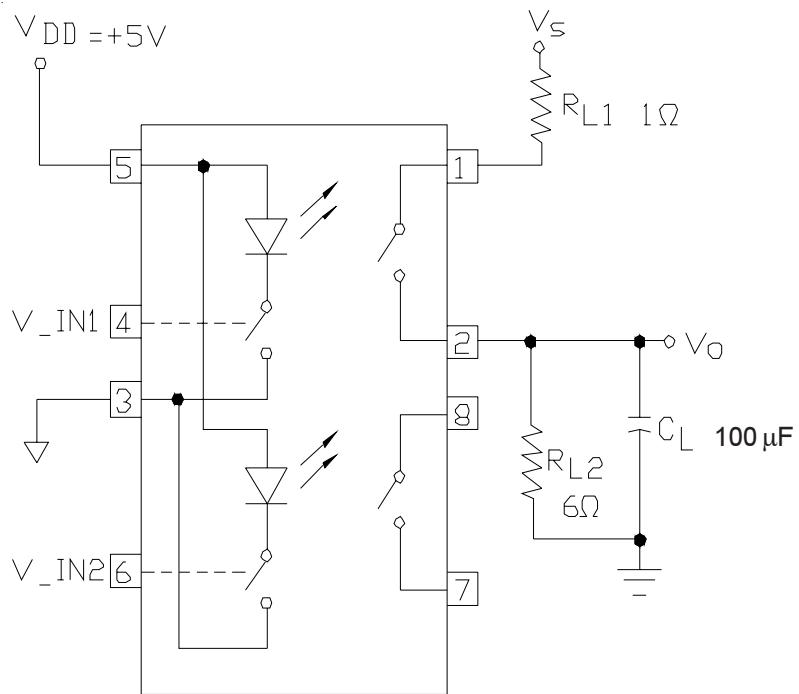

Fig 3: Switching Test Circuit (Only one channel shown)
- ① Specification is guaranteed by design
- ② Rise and fall times are controlled internally
- ③ Inputs protected for $V_{IN} < 1.0V$ and $V_{IN} > 7.5V$
- ④ Optically coupled Solid State Relays (SSRs) have relatively slow turn on and turn off times. Care must be taken to insure that transient currents do not cause violation of SOA. If transient conditions are present, IR recommends a complete simulation to be performed by the end user to insure compliance with SOA requirements as specified in the IRHNJ57130 data sheet
- ⑤ While the SSR design meets the design requirements specified in MIL-PRF-38534, the end user is responsible for product derating, as required for the application
- ⑥ Reference Figures 3 & 4 for Switching Test Circuits and Wave Form
- ⑦ Total Dose Irradiation with Input Bias. 10mA I_{DD} applied and $V_{DS} = 0$ during Irradiation
- ⑧ Total Dose Irradiation with Output Bias. 80 Volts V_{DS} applied and $I_{DD} = 0$ during Irradiation
- ⑨ International Rectifier does not currently have a DSCC certified Radiation Hardness Assurance Program